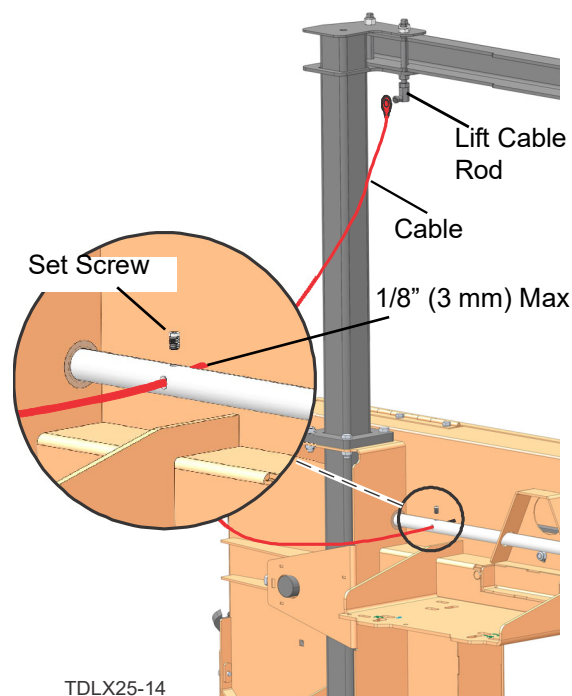

FIG. 1-30
2. Attach the lift cables from the hardware kit on the lift cable rod (attached earlier to the upright cross channel on the mast). See FIG. 1-10. and FIG.1-30
3. Back out the set screw from the crank shaft with a 3mm hex wrench and thread the lift cable through the hole in the crank shaft. See FIG. 1-30.